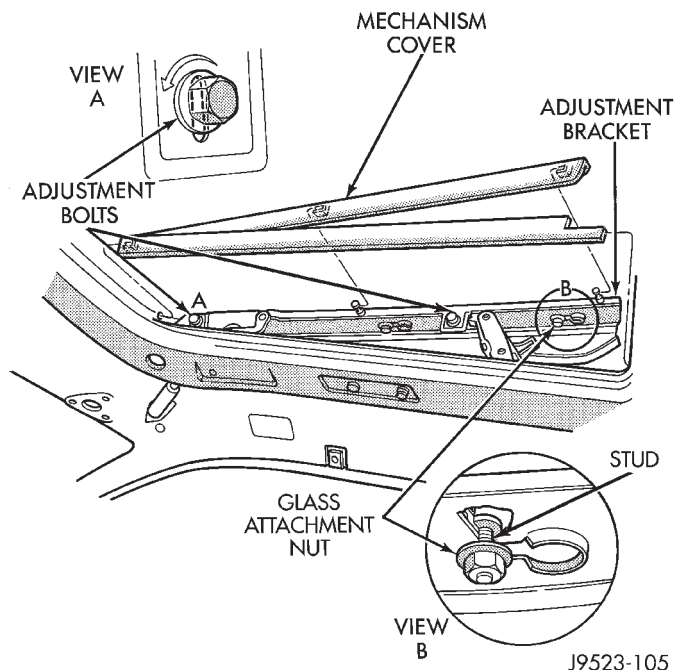

Fig. 12 Glass Adjustment
- (1) Open glass to vent position.
- (2) Slide upper half of mechanism covers rearward until clips disengage and separate covers from vehicle (Fig. 12).
- (3) Close glass panel. Separately loosen adjusting bolts shown in View A (Fig. 12) and individually adjust the corners of the glass.
- (4) Adjust front of glass panel to 1.0 mm (0.040 in.) below top surface of roof panel.
- (5) Adjust rear of glass to 1.0 mm (0.040 in.) above top surface of roof panel.
- (6) Tighten adjustment bolts and install covers.